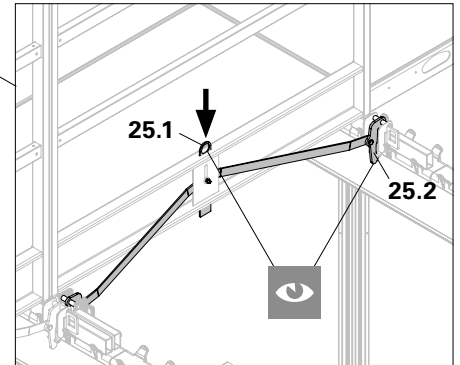
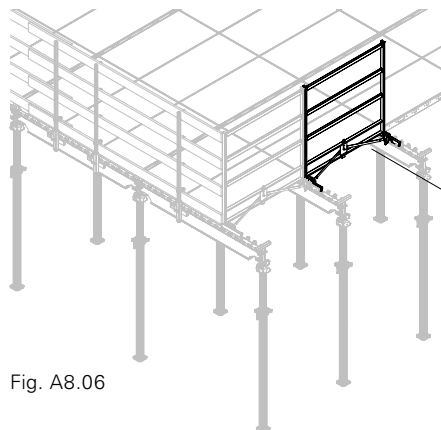

Fig. A8.05
Fig. A8.06
→ The lug falls downwards. Hooks engage and are secured. If the lug is not completely down, then press lug (25.1) downwards by stepping on it. (Fig. A8.05) The Handrail Unit is installed. (Fig. A8.06)
- Do the hooks enclose the teeth of the main beam? (Fig. A8.05)